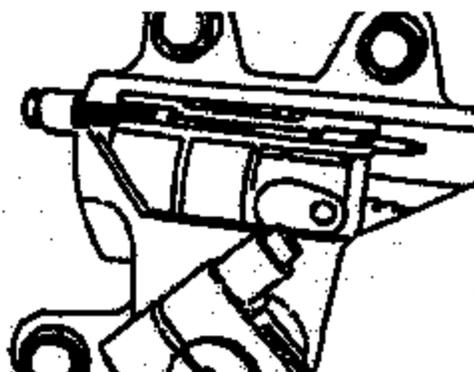

Figure 21
8. Start the engine and run at idle speed. Note which output shaft timing mark is nearest the housing piston bore. Turn the steering wheel in the direction that makes this timing mark move toward the adjusting screw just installed. Turn in this direction until axle stop contact is made. Pull hard on the steering wheel (30 Lbf (133 N) pull on a 20" steering wheel) after the axle stop is contacted. This will prepare the upper poppet for setting (Figure 21).